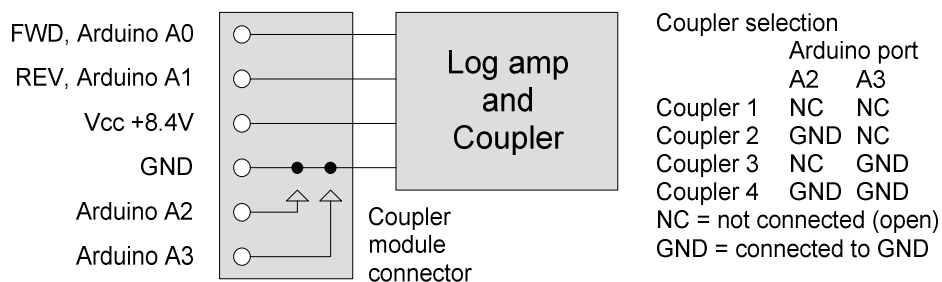

Fig. 3: Coupler selection.
- At ADC input A0 (Figure 3), the forward voltage (FWD) should be significantly greater than the reverse voltage (REV) at A1.
For the connected coupler (see Fig. 3), the decoupled signal level measured by the log amps is calculated in dBm from the ADC measurements for the transmission channel (Forward, FWD) and the reflection channel (Reverse, REV) using the calibration lines stored in the EEPROM. The actual TX and reflected power (dBm) fed into the coupler is obtained by adding the coupling factor of the coupler and the attenuation of the attenuator ahead of the log amps. Displayed are powers in Watts.